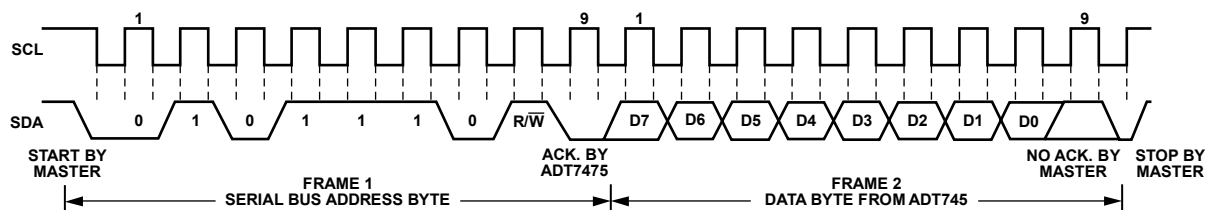

Figure 16. Reading Data from a Previously Selected Register
A read operation is then performed consisting of the serial bus address; R/W bit set to 1, followed by the data byte read from the data register (see Figure 16).
- If the address pointer register is known to be already at the desired address, data can be read from the corresponding data register without first writing to the address pointer register (see Figure 16).